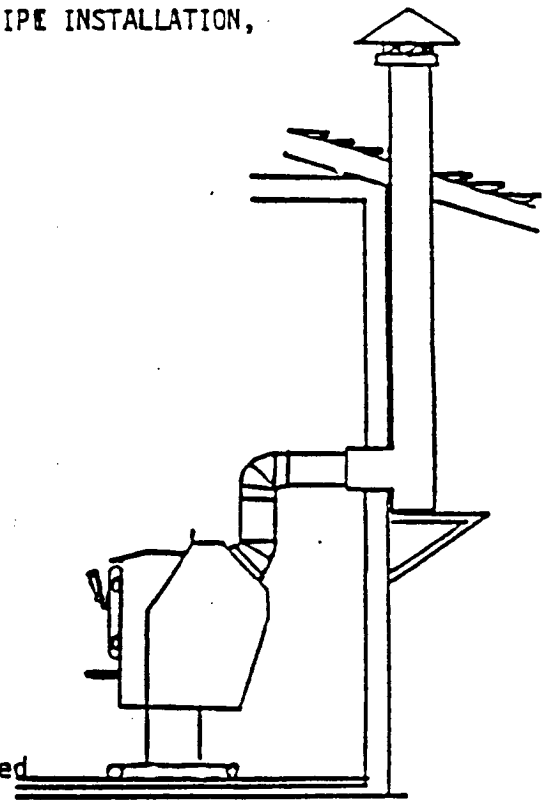

Fig. 3
5. Move stove aside, install floor protector, reposition, install connector, (See fig. 3).
Parts required for horizontal installation and available from your dealer or professional installer are: (Fig. 3)